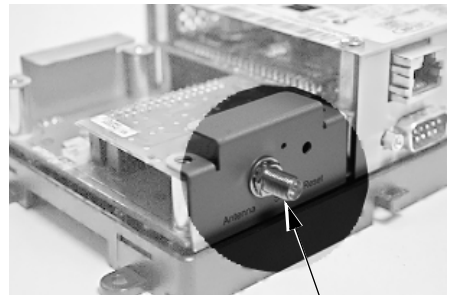

Fig. 2. Antenna location
12. Install the antenna. (Fig. 2)